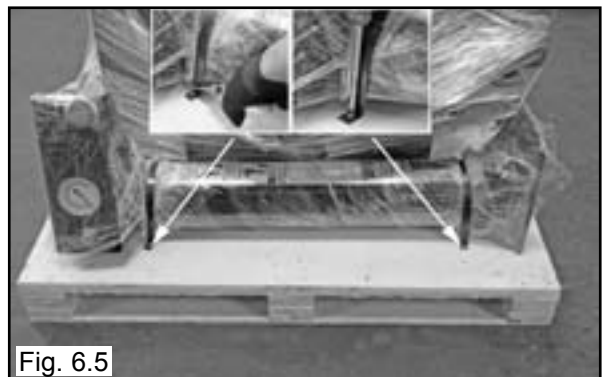

Fig. 6.5
4. Either cut or unscrew the metal strapping holding the Tower to the pallet and set aside. (See Fig 6.5)